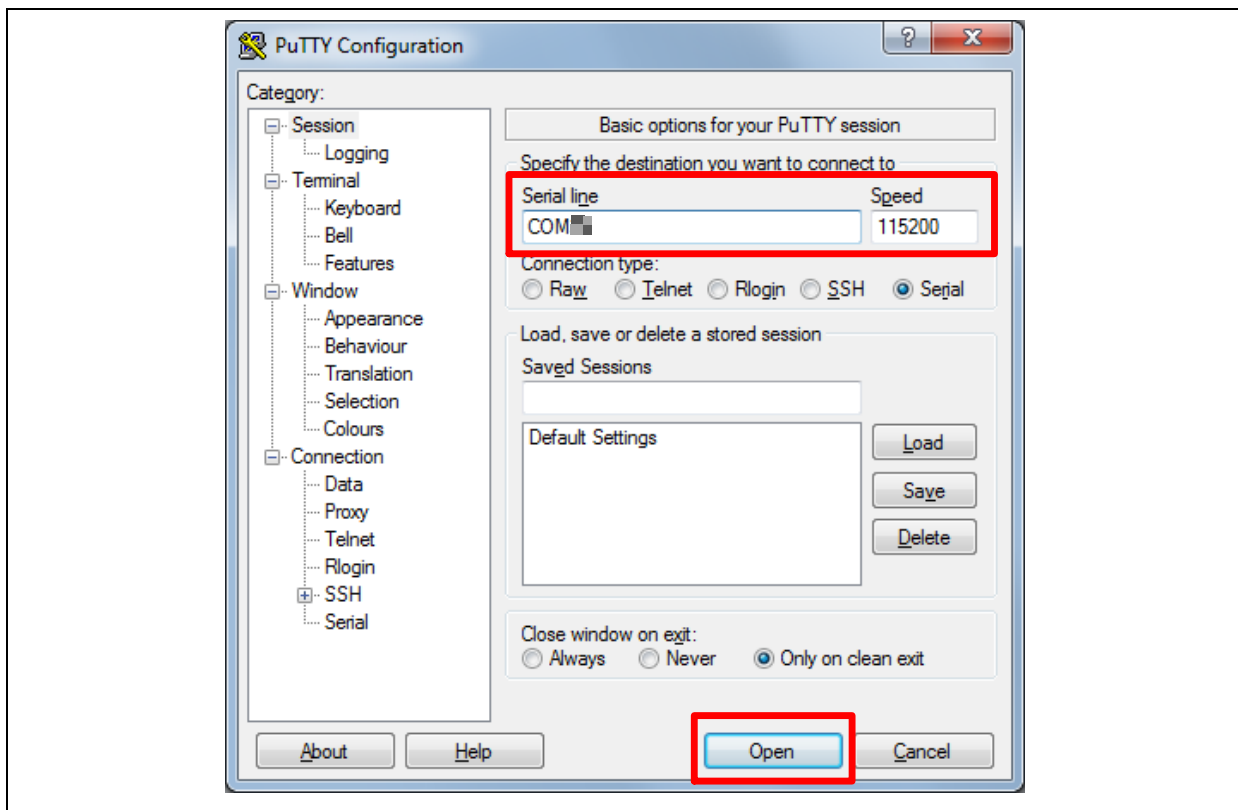

Figure 3-6 PuTTY Session Setting
4. Open a serial port terminal, PuTTY for example, to print out debug message. Set the speed to 115200. Figure 3-6 presents the PuTTY session setting.